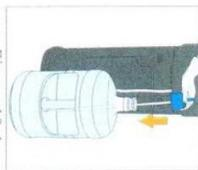

Figure 19-1
19. Assemble replacement bottle adaptor (fig.19-1) (install tube extension onto adaptor assembly) and install onto new, full bottle.